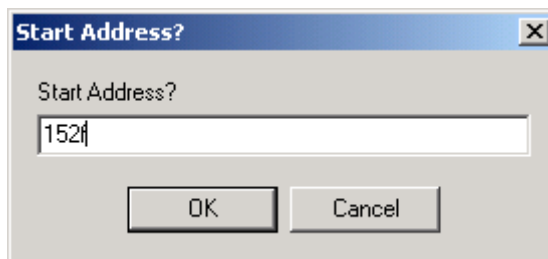

Figure 19 Start Address Window
- In the “Programmer Expert” window, click on “UR Upload Range”. The “Start Address” window appears as shown in Figure 19. Here you specify the start address for the NVM section. Click the “OK” button. For NVM0 use 0x152F and for NVM1 use 0x172F.